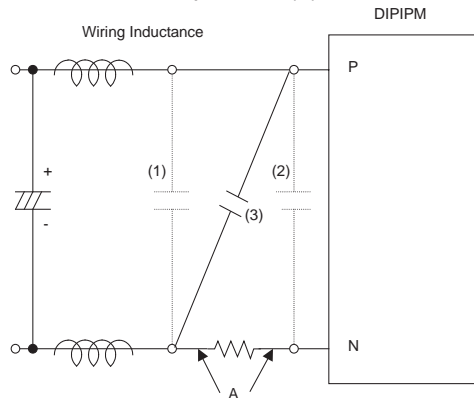

Figure 4-15 Instruction for snubber circuit location
There are two positions ((1) or (2)) to mount a snubber capacitor to the DIIPM as shown in Figure 4-15. Snubber capacitor should be installed in the position (2) so as to suppress surge voltage effectively. However, the charging and discharging currents generated by the wiring inductance and the snubber capacity will flow on the shunt resistor, which might cause an error protection if this current is large enough to reach the SC trip level on the shunt resistor.